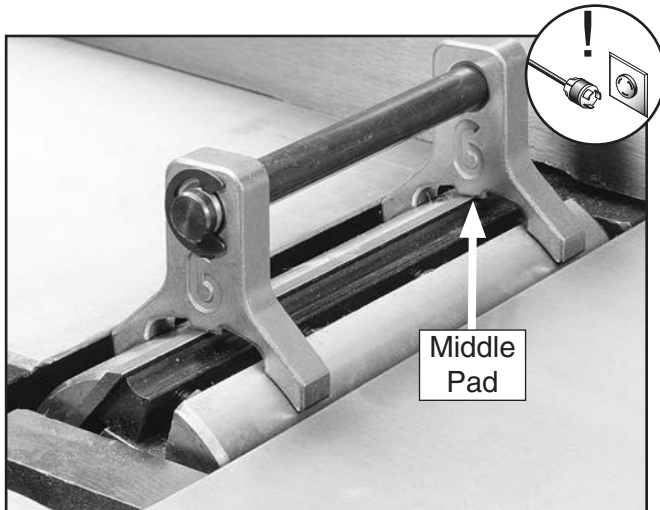

Figure 51. Gauge positioned over cutterhead knife.
4. Place the knife gauge on the cutterhead, directly over a knife, as shown in **Figure 51**.
6. Position the knife gauge over the knife as shown in **Figure 51** and loosen the gib bolts until the knife is completely loose.